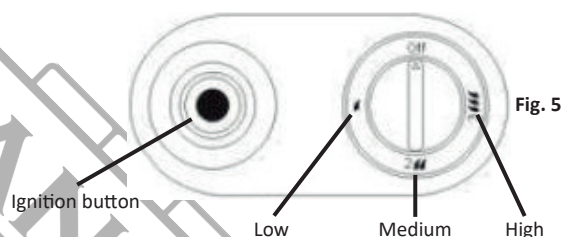

Fig. 5
Gas control knob (Fig. 5)
Piezoelectric ignition button (Fig. 5)
2. Open the gas cylinder by turning the gas cylinder valve counterclockwise. Turn the gas control knob on the heater to the "Low" position (fig. 5).
4. While holding down the control knob, push the piezoelectric ignition button (fig. 5) 2 or 3 times. Each time you push the piezoelectric ignition button you will hear a clicking sound as well as see a spark on the pilot burner.
1. Turn the gas control knob to the "Low" position (fig. 5) and close the gas cylinder valve by turning the knob on the gas cylinder clockwise.